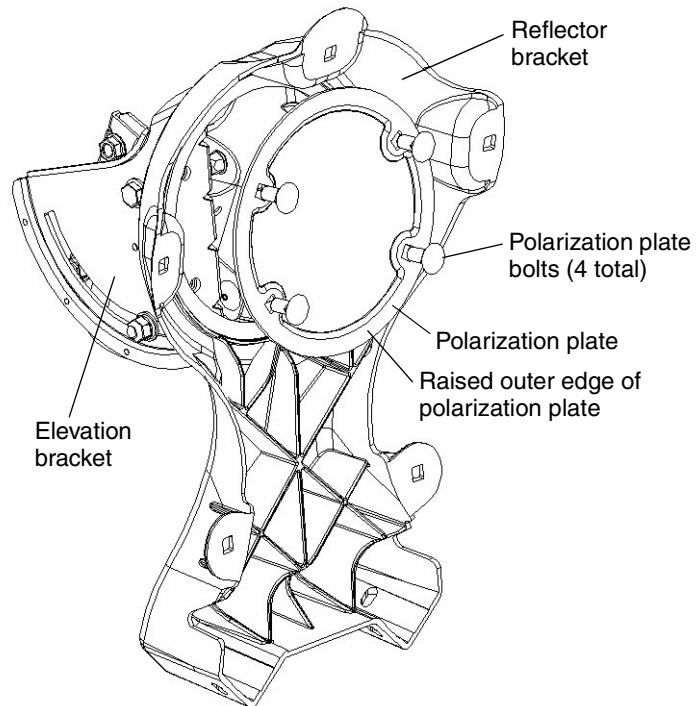

Figure 8: Fastening the polarization plate to the elevation bracket
Assemble the polarization adjustment assembly by attaching the polarization plate to the front of the elevation bracket, through the reflector bracket, as shown in Figure 8.
1. Place the polarization plate into the circular hole in the reflector bracket, as shown in Figure 8, *with the raised outer edge of the polarization plate facing away from the elevation bracket.*